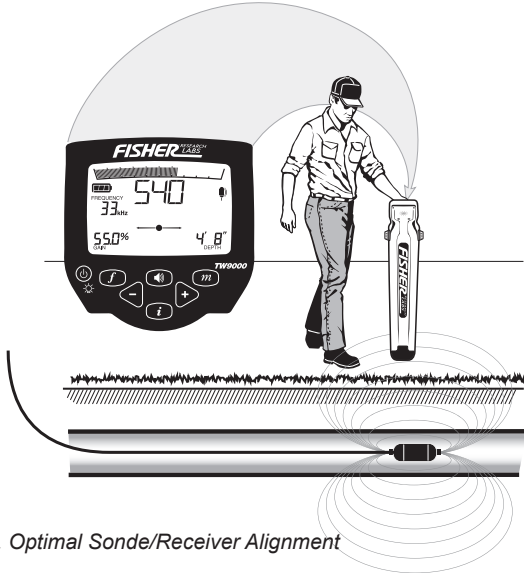

Figure 17. Optimal Sonde/Receiver Alignment
**STEP 6.** Properly align the Receiver to the direction of the Sonde. See Figure 17 on page 45.